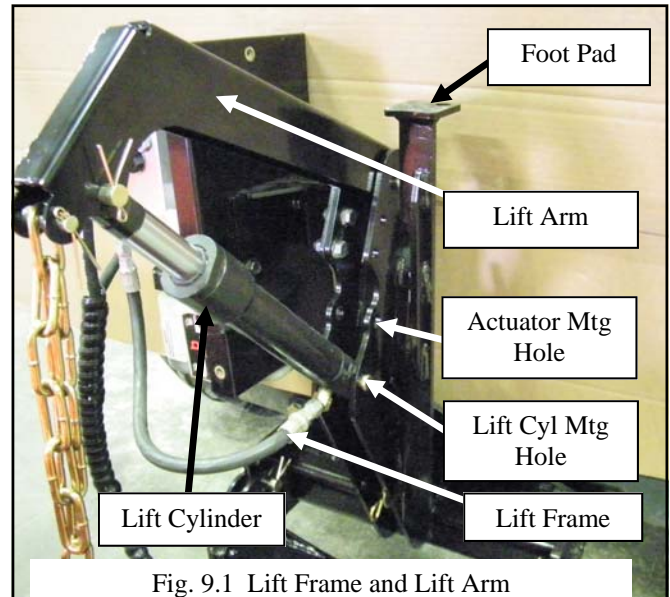

Fig. 9.1 Lift Frame and Lift Arm
- 9.5 Place the piston end of the Lift Cylinder between the plates of the Lift Arm as shown, line up holes and place 1/2" x 2" clevis pin in place to hold. Then insert cotter pins in all (3) clevis pins to lock in place per Fig 9.1